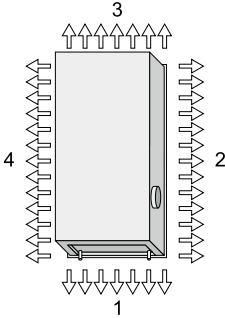
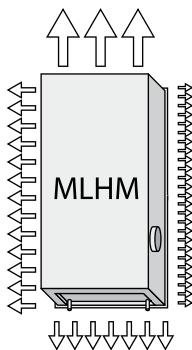

Figure 5. Top view, nozzle setting, PARASOL two-module unit, sides 1-4.
Figure 6. Nozzle setting example PARASOL two-module unit - MLHM.
**) All four sides on the unit can be set individually. The designation of the nozzle setting follows the order according to Figure 5. See Figure 6 for example.
***) All four sides on the unit can be set individually. The designation of the nozzle setting follows the order according to Figure 5. See Figure 7 for example.